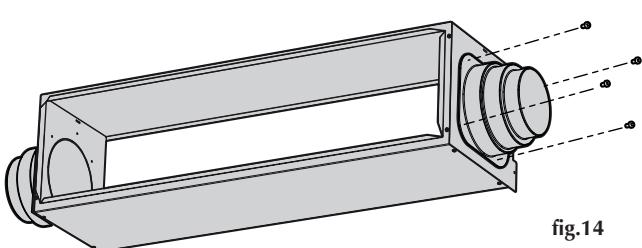

fig.14
- Use the four screws to fasten the KVF accessory (fig.14)